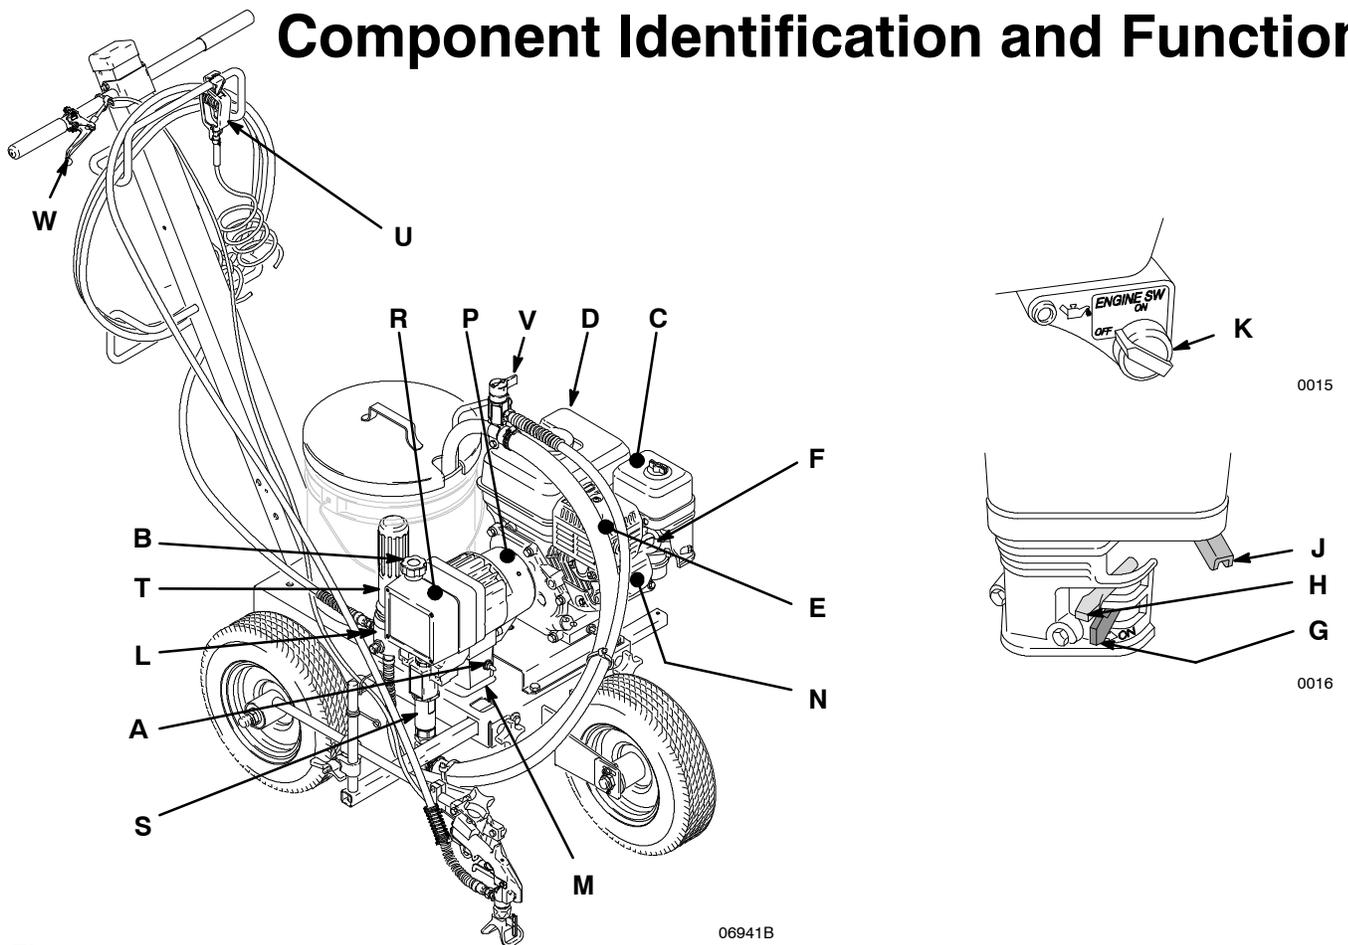

Fig. 1
8. **Keep the sprayer upright and level** during operation and whenever it is being transported. Set the fuel valve (G, Fig.1) to OFF.
NOTE: Refer to Fig. 1 as you start the sprayer.
3. **Detach pressure drain valve (V, Fig. 1) from suction tube** and place pressure valve drain tube in another bucket.